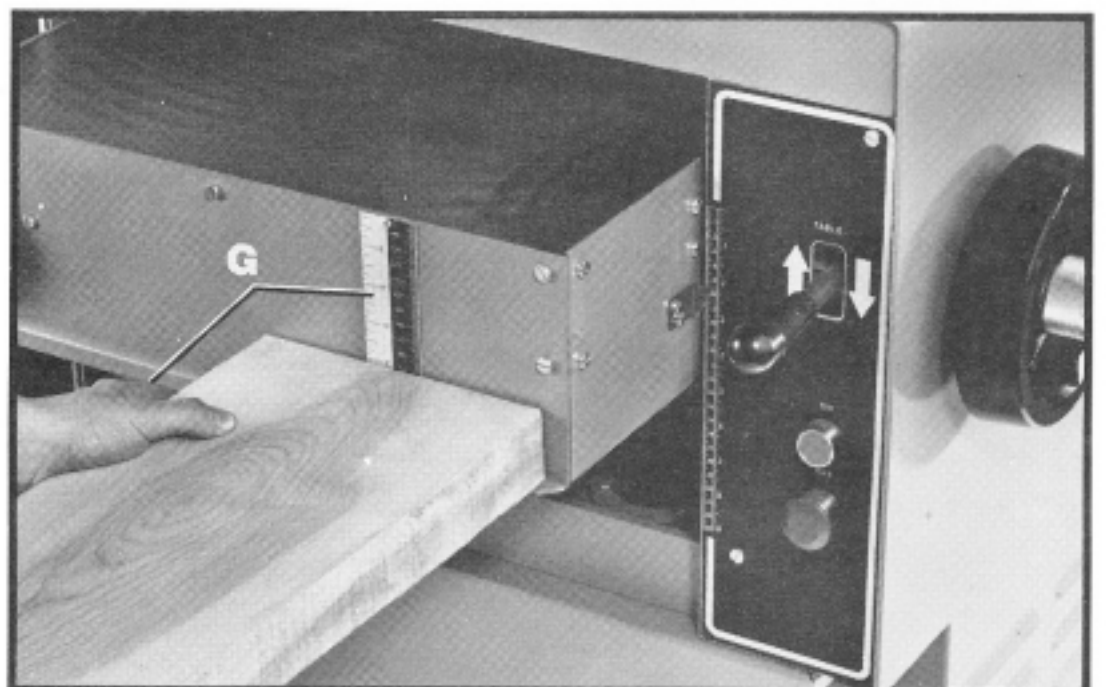

Fig. 12
The English/Metric scale and shelf (G) Fig. 12, located on the front of the table is used to quickly determine the thickness of stock, before or after planing, by simply placing the stock on the shelf as shown in Fig. 12. This enables you to quickly position the table for the next cut.